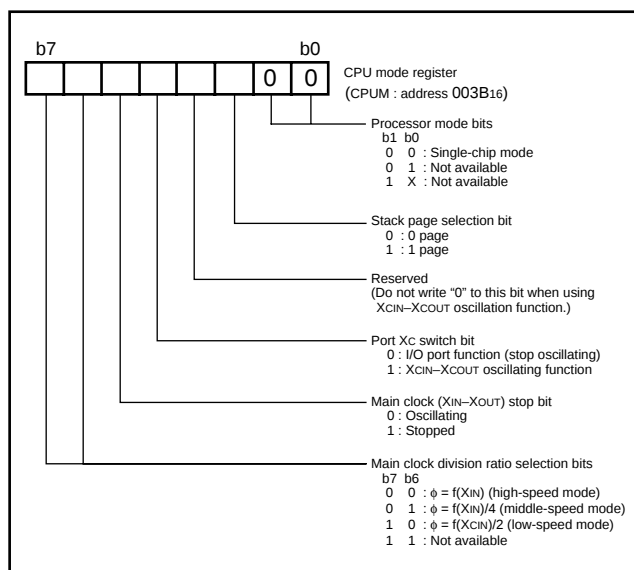

Fig. 100 CPU mode register bit configuration in CPU rewriting mode
Figure 100 shows the CPU mode register bit configuration in the CPU reprogramming mode.
- ① Apply 0 V to the CNVss/VPP pin for reset release.
- ② Set the CPU mode register. (See Figure 100)
- ③ After CPU reprogramming mode control program is transferred to internal RAM, jump to this control program on RAM. (The following operations are controlled by this control program).
- ④ Set "1" to the CPU reprogramming mode select bit.
- ⑤ Apply VPPH to the CNVss/VPP pin.
- ⑥ Wait till CNVss/VPP pin becomes 12 V.
- ⑦ Read the CPU reprogramming mode monitor flag to confirm whether the CPU reprogramming mode is valid.
- ⑧ The operation of the flash memory is executed by software-command-writing to the flash command register.